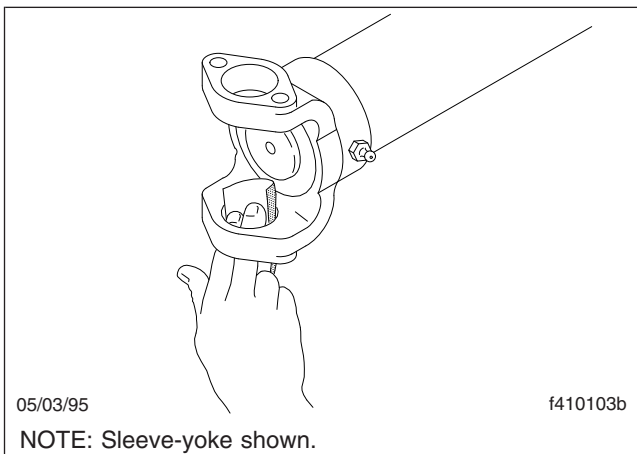
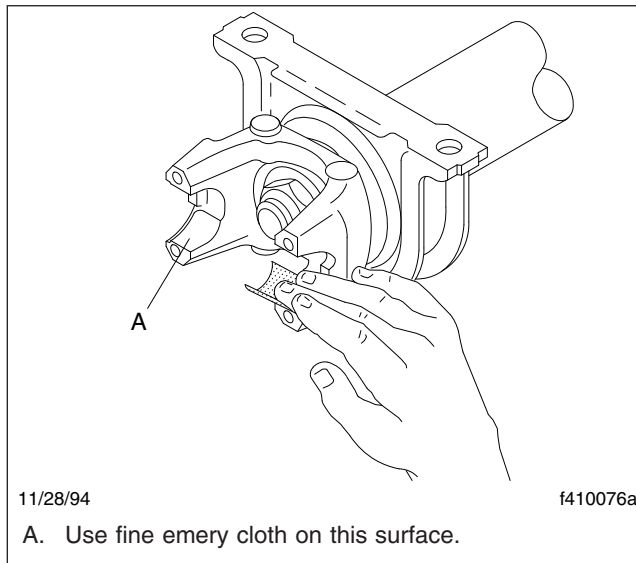

Fig. 5, Smoothing a Full-Round Yoke Cross-Hole
Fig. 7, Smoothing a Half-Round End-Yoke Cross-Hole
7. Using fine emery cloth, smooth and clean the entire surface of all driveshaft yoke cross-holes. See Fig. 5.
4. Smooth and clean the entire surface of all end-yoke cross-holes, using fine emery cloth. See Fig. 5 for full-round yokes, or see Fig. 7 for half-round yokes.